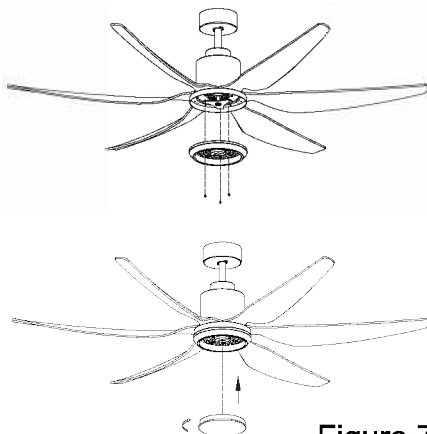

Figure 7
7. Install the lampshade on the light plate. Make sure it is securely fastened but not too tight (Figure 7)